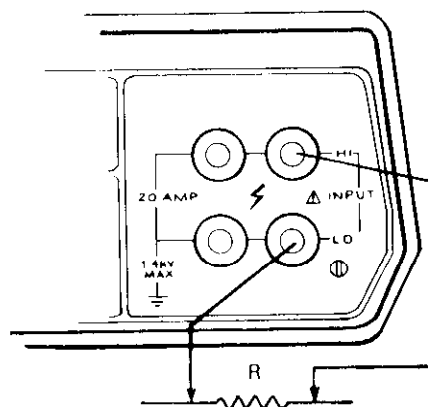

Figure 2-5. Resistance ( $\Omega$ ) Measurement
3. Connect the unknown resistance (R) to the INPUT jacks of the 179A as shown in Figure 2-5.